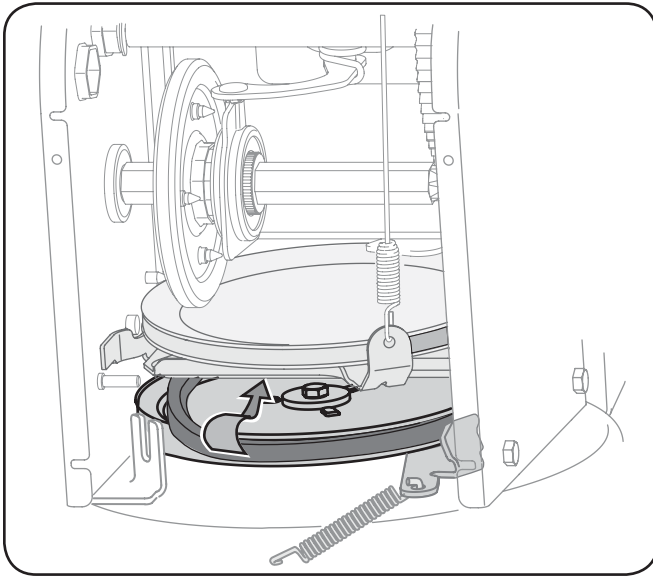

**Figure 7-4**
6. Remove the belt as follows. See Fig. 7-4.